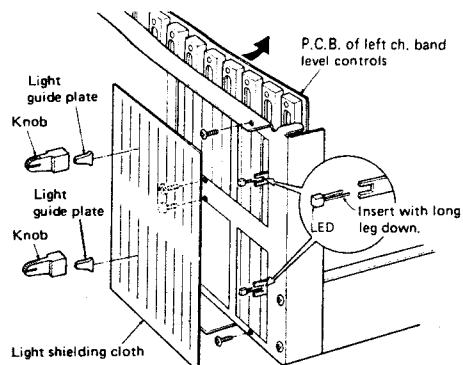

Fig. 4
3. Remove the light shielding cloth. [Fig. 4]